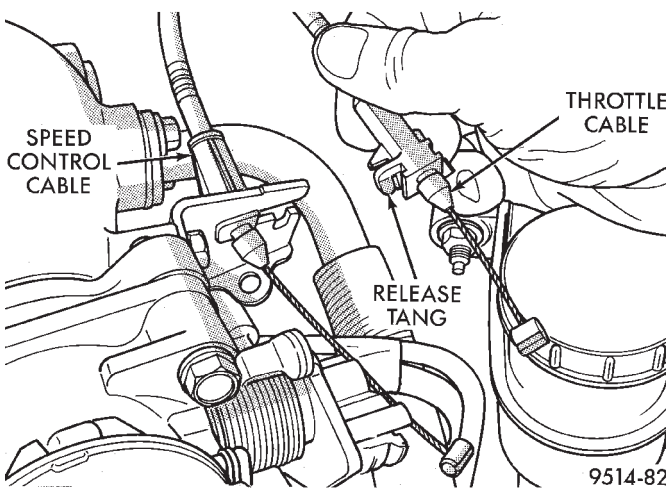

Fig. 34 Throttle Cable Attachment
- (9) Pry retainer tab back on throttle cable and slide cable out of bracket (Fig. 34). Remove cable from throttle lever.
- (10) Slide Speed control cable out of bracket, if equipped (Fig. 34). Remove cable from throttle lever.